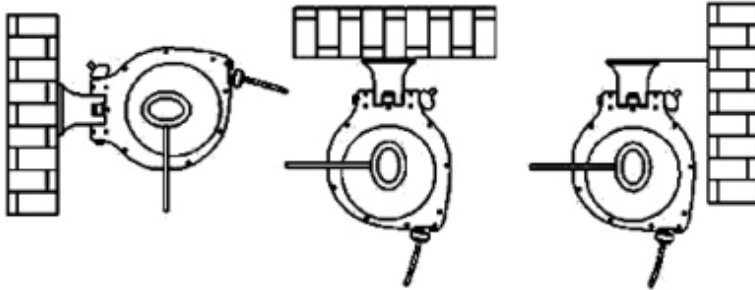

Fig.4
2) Otherwise, the reel can be used vertically when you hang in an overhead suitable beam or rafter (Fig.4).